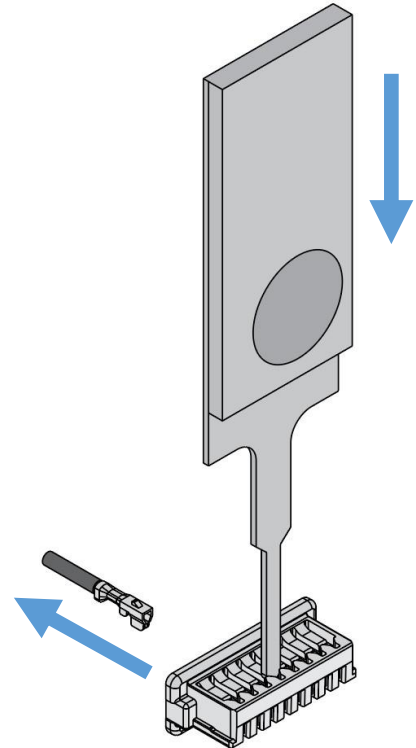

Figure 8
4. Gently pull on the wire to remove the terminal from the housing. See Figure 8. It is recommended that the terminal be replaced after extraction.